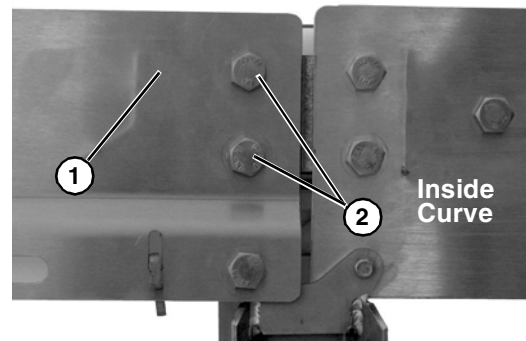

Figure 16
4. Secure straight section (**Figure 16, item 1**) onto curved section with two hex head bolts (**Figure 16, item 2**) with bolt heads to the outside as shown.